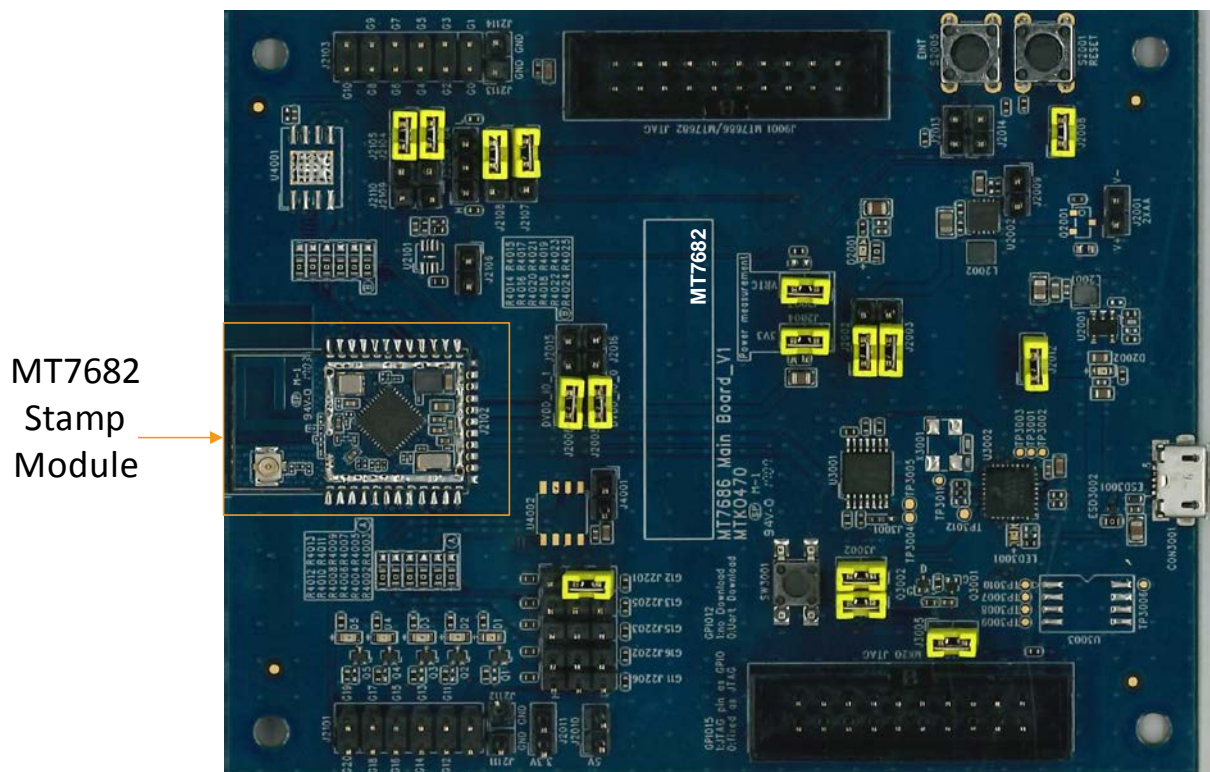

Figure 1. MT7682 HDK's front view with the stamp module
MT7682 is a single chip IEEE 802.11 b/g/n Wi-Fi microcontroller unit (MCU) integrated with high-performance ARM® Cortex®-M4 MCU. MT7682 enables convenient application development with a single integrated circuit (IC). With the on-chip Wi-Fi, internet and robust security protocols, no prior Wi-Fi experience is required for developers to rapidly implement a connected application. The system includes a main board and a MT7682 stamp module, as shown in Figure 1.